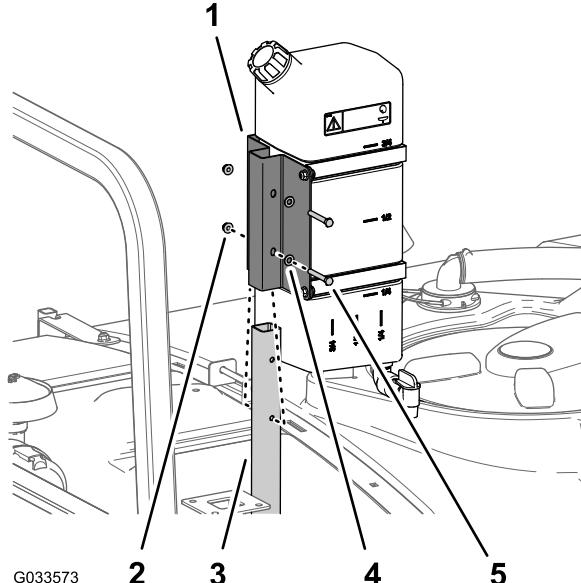

Figure 47
1. Assemble the fresh-water tank and mount onto the support tube with the 2 bolts (5/16 x 2-1/4 inch) and 2 flange locknuts (5/16 inch) as shown in Figure 47.